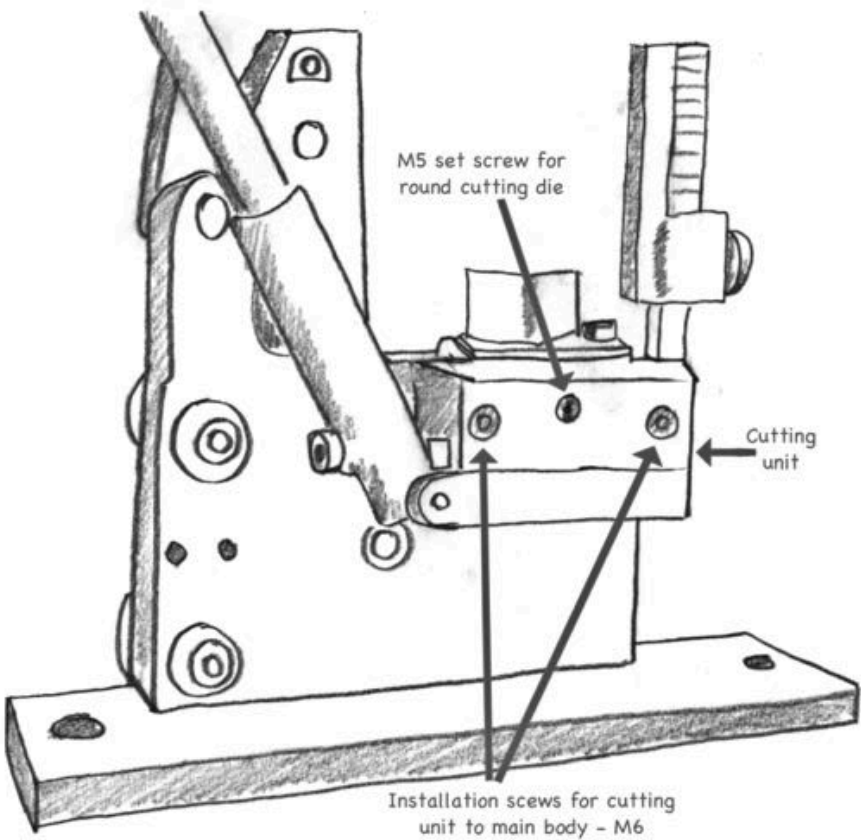

fig 8
- 1/ Remove the Cutting Unit (fig 8) by unthreading its 2 M6 fixing screws. The round die is retained by one M5 set screw. If necessary, warm the cutting unit body and press out the round die with an arbor press.